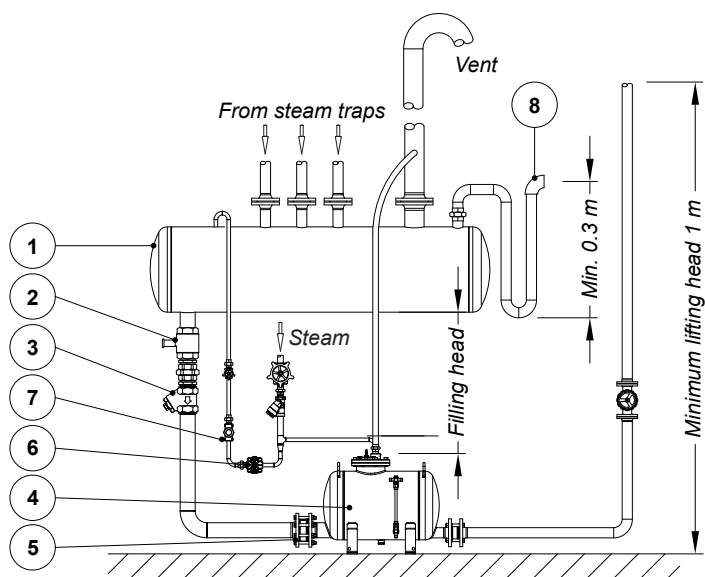

Fig. 1
INSTALLATION: Horizontal installation. An example is shown in Fig. 1.
4. Available filling head (see Fig. 1) in mm or any other dimension that allows its determination.